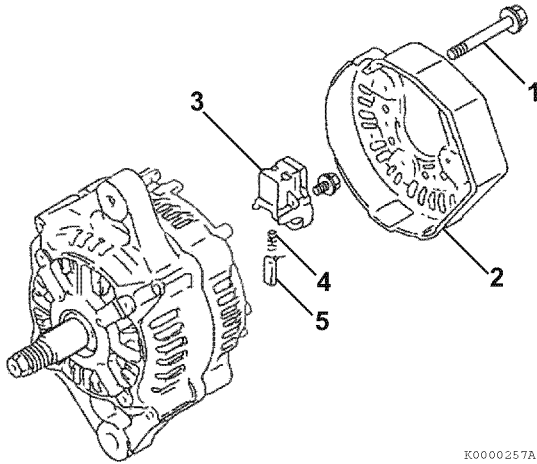

Figure 12-17
8. Reinstall the brush holder (3, **Figure 12-17**), springs (4, **Figure 12-17**) and brushes (5, **Figure 12-17**).
10. Reinstall the rear cover (2, **Figure 12-17**) to the rear frame housing with three bolts (1, **Figure 12-17**).